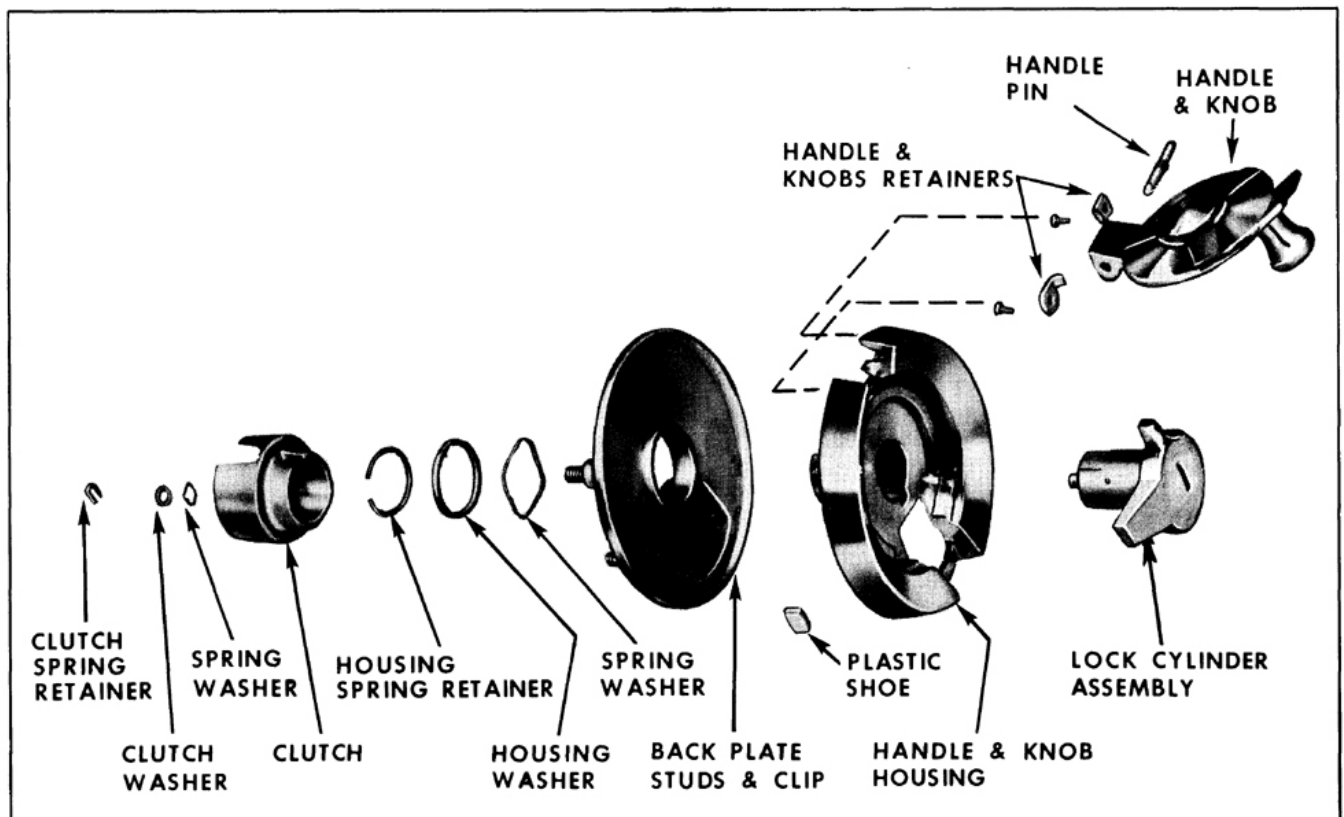

Fig. 16-215 Window Regulator Outside Handle Assembly
TAILGATE WINDOW HANDLE ASSEMBLY Disassembly and Assembly (Fig. 16-215)
2. Using an awl, remove clutch spring retainer; then remove clutch washer and spring washer, and remove clutch and lock cylinder assembly from unit. (Fig. 16-215)
NOTE: Plastic shoes can be removed from handle and knob housing by carefully prying shoes from housing. (Fig. 16-215)